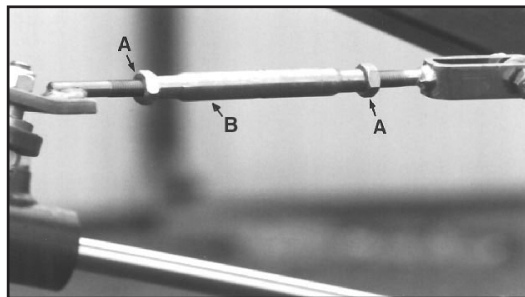

Fig. 38
## 8.5 Adjusting Front Fold Cables (Fig. 38)
5. Loosen jam nuts (A) on the turnbuckle assembly and adjust turnbuckle (B) for proper cable deflection. (Fig. 38).
6. Tighten jam nuts (A) and remove weight.